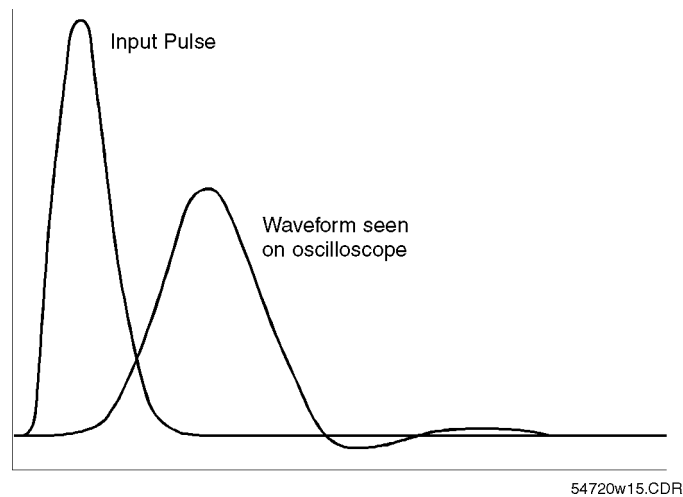

Figure 9-6. Narrow pulse applied to the instrument.
3. the peak is shifted relative to the pulse as shown in Figure 9-6.